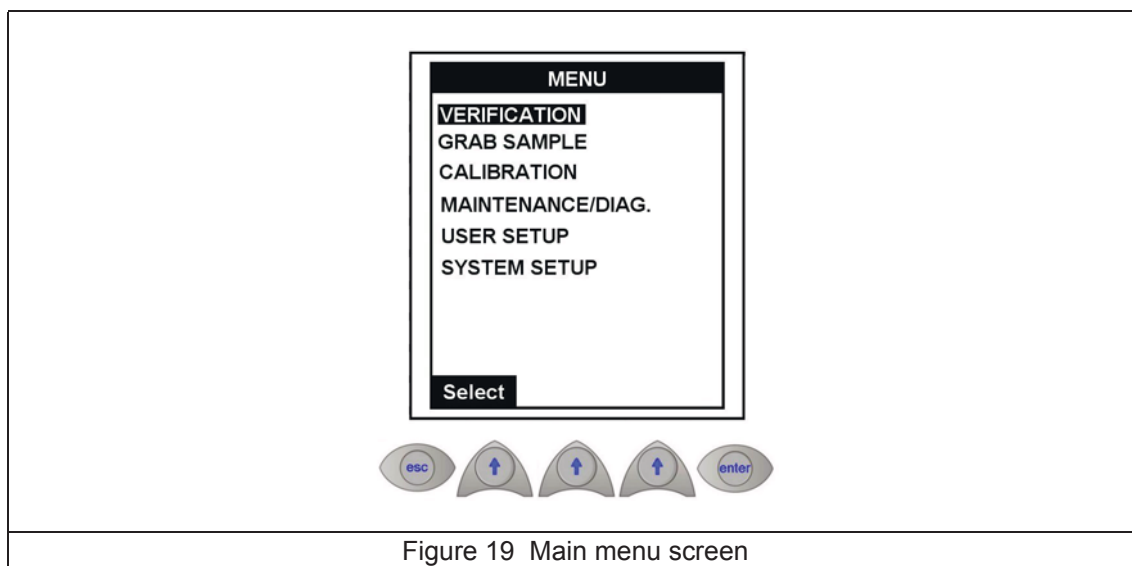

Figure 19 Main menu screen
- **Menu** - This will bring up the main menu screen as illustrated in Figure 19 on page 66.